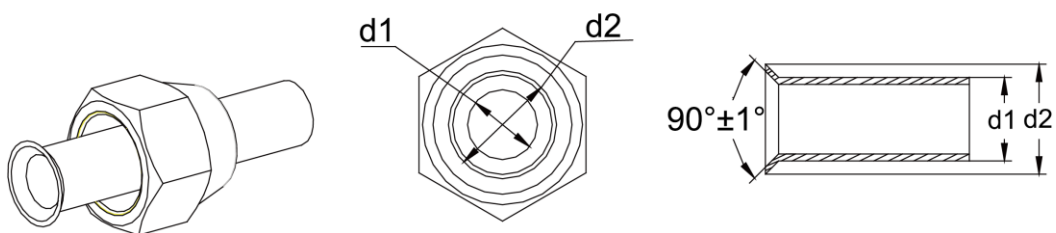

Fig. 10
- (1) Use pipe cutter to cut the connection pipe in case it is unshaped.
- (2) Keep the pipe downward in case cutting scraps get into the pipe. Clear away the burrs after cutting.
- (3) Remove the flared nut connecting indoor connection pipe and outdoor unit. Then use flaring tool to fix the flared nut into the pipe (as shown in Fig.10).
- (4) Check if the flared part is flaring evenly and if there is any crack.